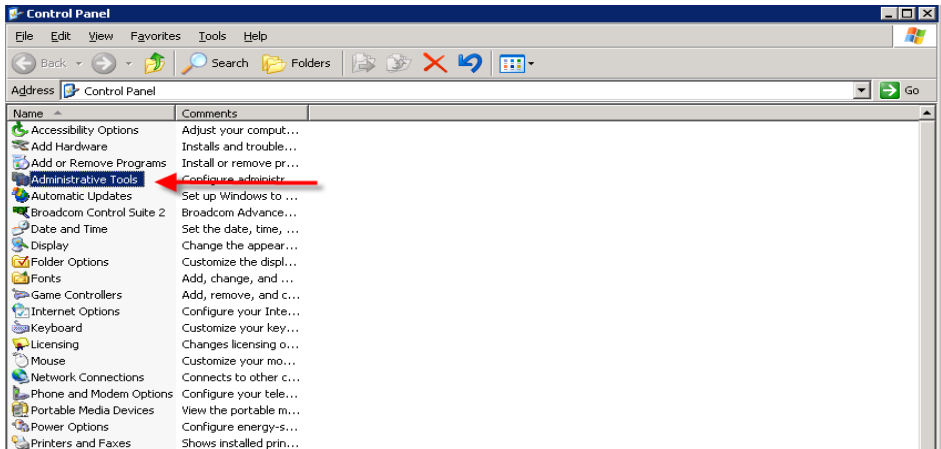

Figure 2-25 Control Panel
1. From the Windows **Start** menu, select **Settings** and open up the **Control Panel**, as shown in figure 2-25 below.